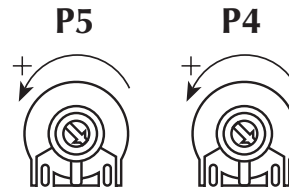

Fig. 25
5.04 Adjusting maximum output for central heating system (fig. 25)